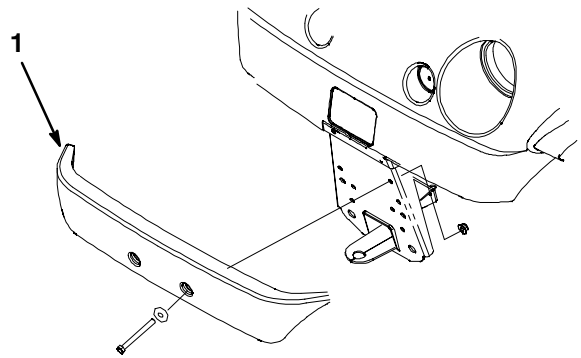

Figure 4
1. Remove the (2) capscrews, washers and nuts secured to the front of the frame.
2. Align the mounting holes and secure the bumper to the frame with the fasteners previously removed (Fig. 4).